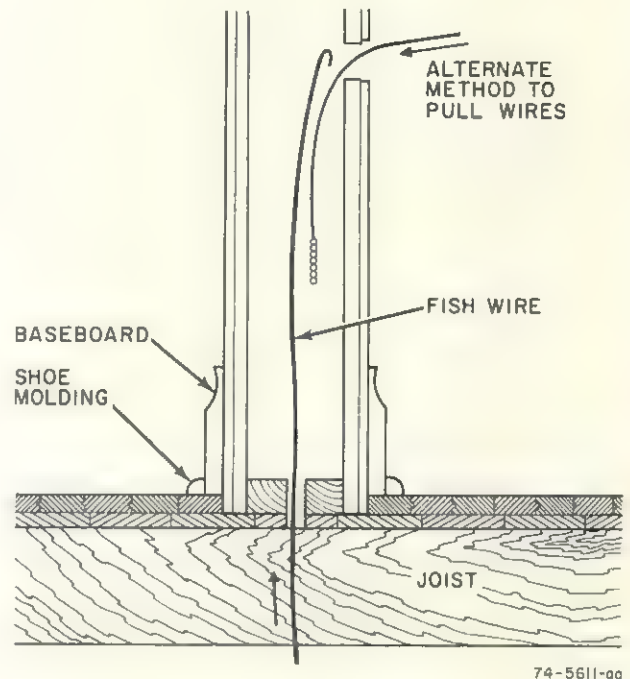

Fig. 41—Fishing Wire Through Wall to Basement.
2. From the basement, push a fish wire through the hole and into the wall (Fig. 41). At this point you may either—
3. Connect wires to bit and pull wires up through the wall. Fish wire can be used if desired (Fig. 41).